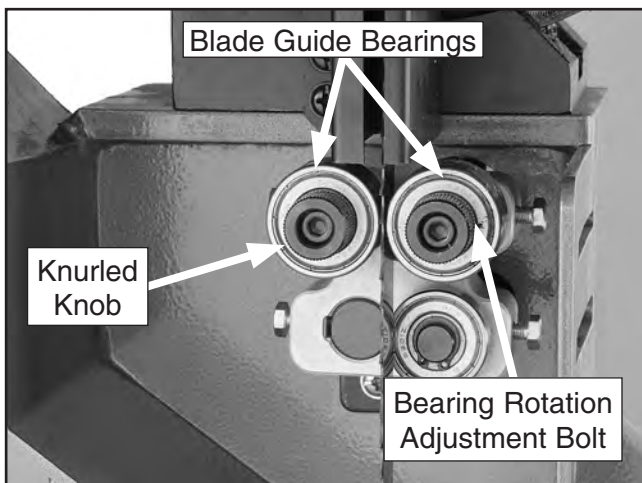

Figure 25. Lower blade guide controls (front view).
3. Familiarize yourself with blade guide controls shown in **Figure 25**.